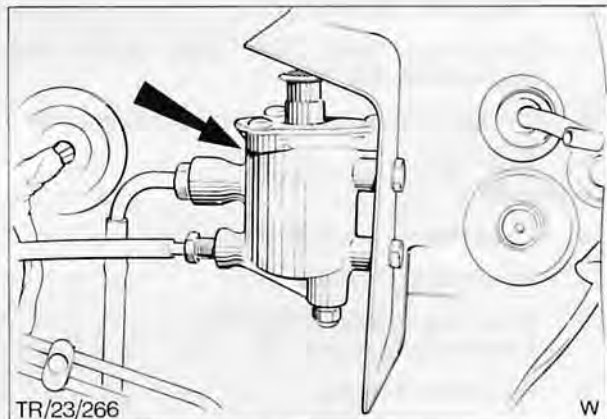

Fig. 73. Fuel reservoir assembly
3. Disconnect fuel inlet and outlet pipes, Fig. 73.